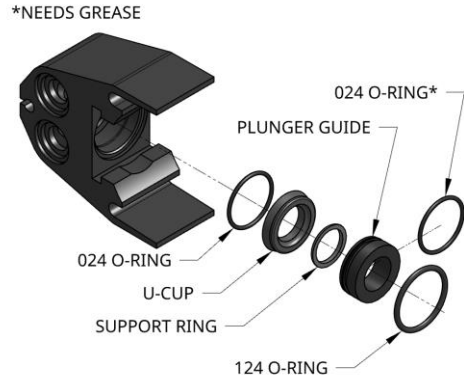

Figure 3
4. Place one 024 o-ring, u-cup, and support ring into bore. Verify that support ring is flush with top of u-cup. Place 124 o-ring (largest o-ring) into recessed area around top of bore. Lightly grease second 024 o-ring and place around plunger guide. Press plunger guide with o-ring installed into bore. See Figure 3.